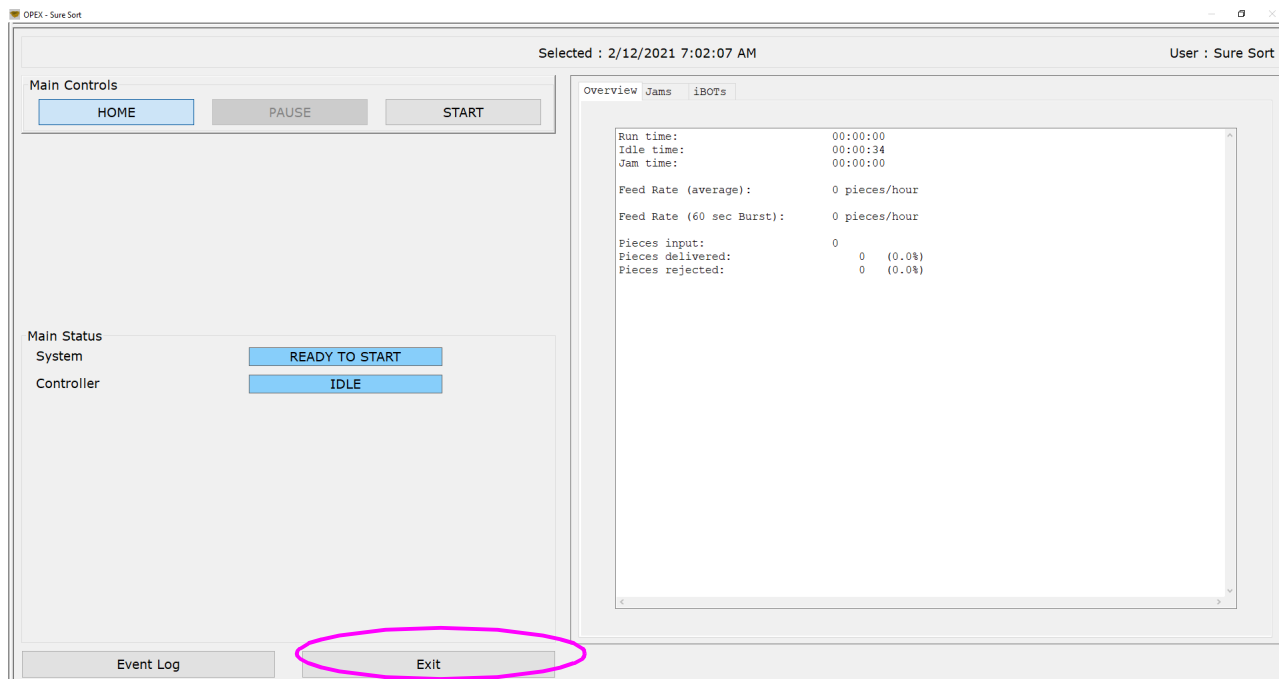

Figure 4-42: OPEX Host Run Screen - Exit
2. To exit out of the Run Screen, click **Exit** (see Figure 4-42).